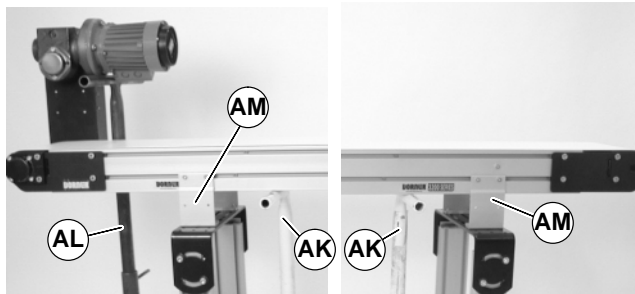

Figure 20
1. Place temporary support stands (AK of Figure 20) at both ends of the conveyor. Place an additional support stand under the drive motor (AL), if equipped. See **WARNING**.
2. Remove mounting brackets (AM of Figure 20) from one side of conveyor. (Reverse steps 3 & 4 of "Mounting Brackets" section on page 6).
1. Ensure temporary support stands (AK of Figure 20) are placed at both ends of the conveyor. Place an additional support stand under the drive motor (AL), if equipped. See WARNING.